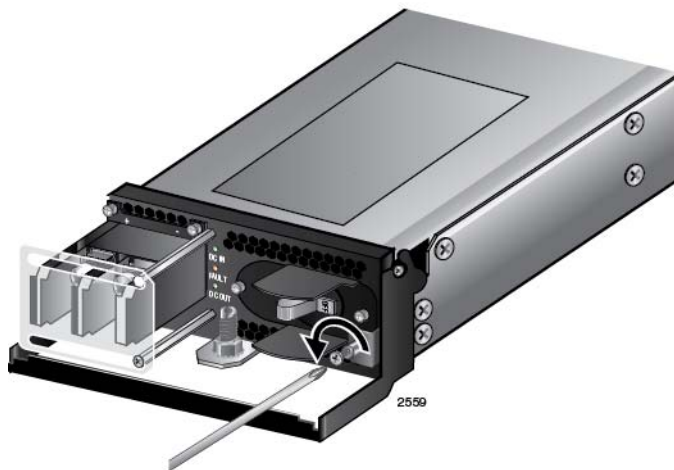

Figure 74. Loosening the Handle Locking Screw on the AT-SBxPWRSYS1 DC Power Supply
5. With a #2 Phillips-head screwdriver, loosen the handle locking screw on the power supply, as shown in Figure 74.